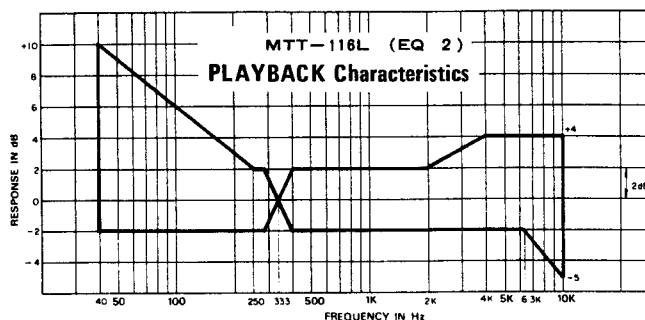

Fig. 11-4 Frequency Response - Playback -
3. With the 333Hz \pm 10dB signal of the test tape as a reference, confirm the output level of each frequency from 40Hz to 10kHz is within the limits shown on the chart. Fig. 11-4